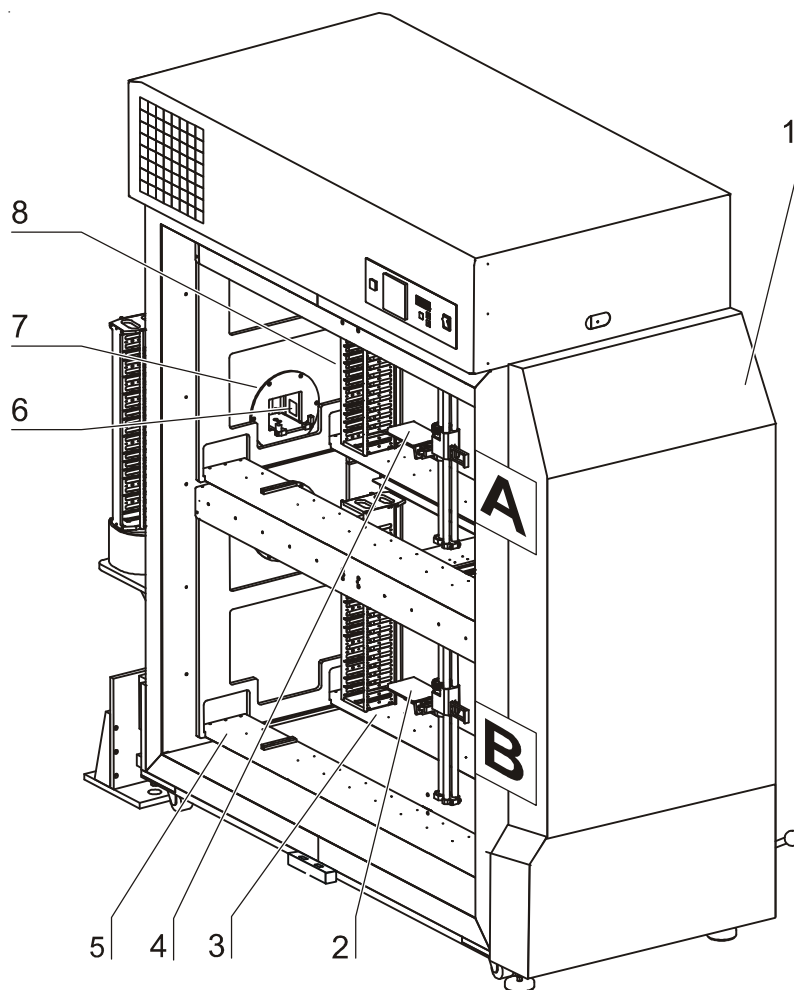

Fig. 12,
**Fig. 12:** The internal subsystems transport the culture containers within the sample chamber of the storage cabinet from the stackers [8] to the relevant transfer station [4]. The plate sensor [6] detects if a location is empty or occupied.